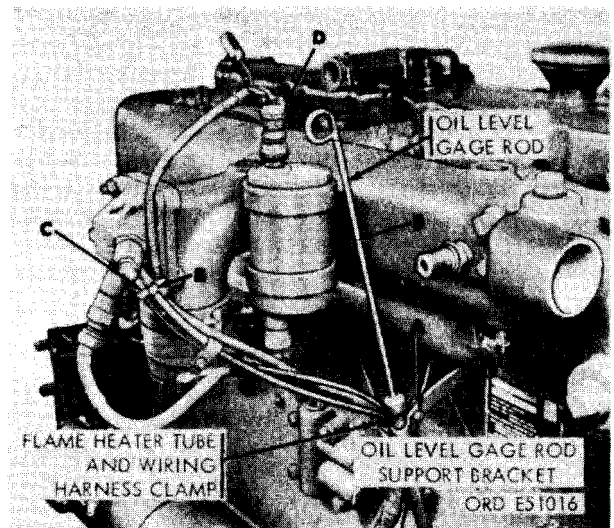

FIGURE 168. DISCONNECTING OR CONNECTING INTAKE MANIFOLD FLAME HEATER FUEL TUBES, IGNITION LEAD, AND OIL LEVEL GAGE SUPPORT BRACKET.
- (3) Figure 168. (A) Remove No. 12 plain nut, No. 12 lock washer, and No. 12 x 5/8 machine screw securing oil level gage rod support to oil gage rod bracket. (B) Disconnect 1/4- inch tube nut on flame heater fuel return-to- solenoid valve tube from 1/8- inch pipe union in flame heater nozzle and holder assembly. (C) Disconnect 1/8- inch tube nut on flame heater fuel solenoid valve-to- flame heater nozzle tube from 1/4 tube x 1/8 pipe, 90 degree elbow in flame heater nozzle and holder assembly. (D) Disconnect flame heater ignition lead from flame heater ignition unit. (E) Remove oil level gage rod from rod support.
- (1) Refer to figures 168 through 174 and reverse the sequence of illustrations and instructions to install the exhaust manifold assembly. Install new intake, exhaust, and cylinder head water outlet manifold gaskets.
- (3) Remove the intake manifold assembly following instructions for figures 168 through 172.
- (1) Refer to figures 168 through 172 and reverse the sequence of illustrations and instructions to install the intake manifold assembly. Install new intake, exhaust, and cylinder head water outlet manifold gaskets.